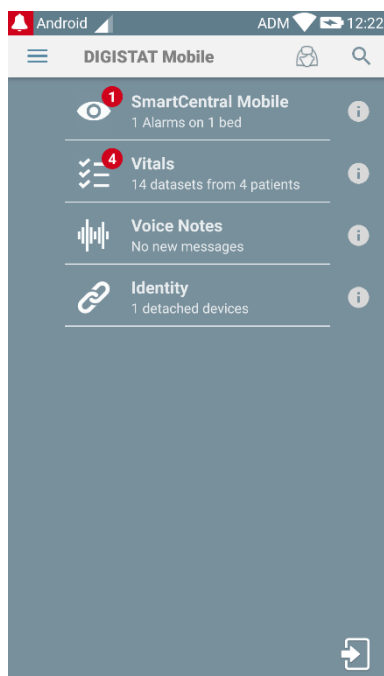
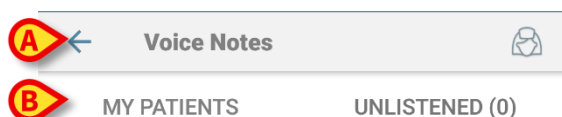

Fig 102
Fig 108
- Touch the corresponding row on the handheld device screen (Fig 102).
Fig 108 shows the heading of the patient list screen.
Touch the left arrow indicated in Fig 108 A to exit the module and display the handheld device screen (Fig 102). Use the filter indicated in Fig 108 B to display either all the patients configured on the handheld device domain or only the patients for which there are unlistened voice messages (**Unlistened**) for the current logged user.